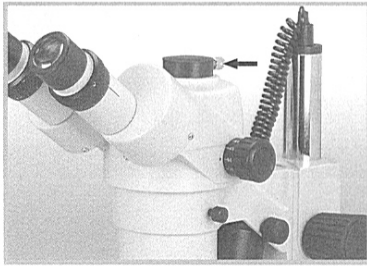

Fig.2
At the back of the head there is a selection lever (Fig. 2) that transmits the image to the vertical port. In an extended position the image is transmitted to the vertical port, and the image cannot be seen by the right eyepiece.
2. Loosen the knurled screw (Fig.2), situated on the side of the vertical port on the head, sufficiently enough to remove the protective cover.